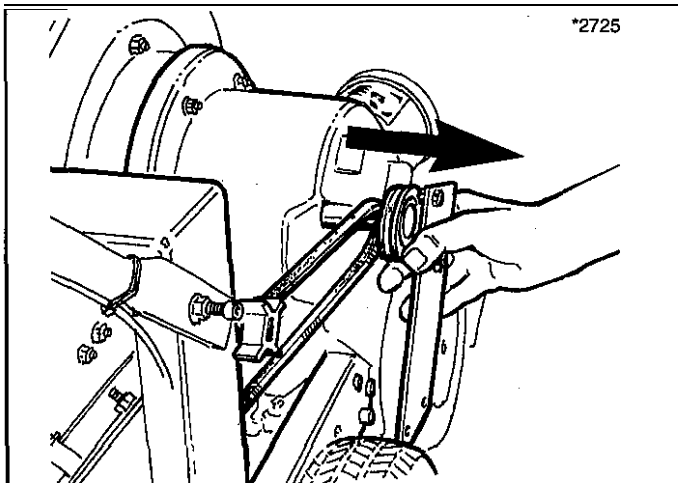

Figure 20. Pull Drive Pulley Bearing Plate And Slide Drive Belt Off Pulley
5. Pull the drive pulley bearing plate straight out, and lift the drive belt off the pulley to permit complete removal of the plate assembly (Figure 20). It may be necessary to tap the plate with a hammer to help free it from the splined hub assembly on the rotor.